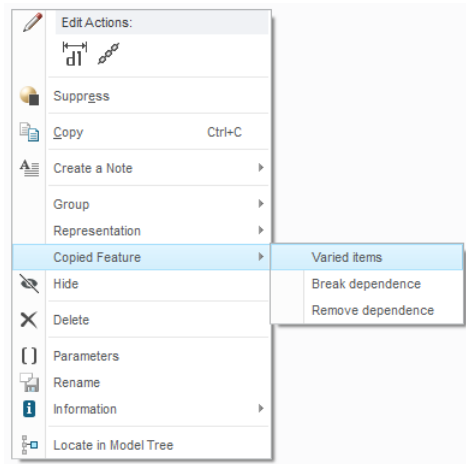

Figure 3-11. Copied Feature right mouse button commands.
- Right clicking on the copied feature(s) will provide access to the **Copied Feature** commands to access the Varied Items table and control the dependency (see Figure 3-11).